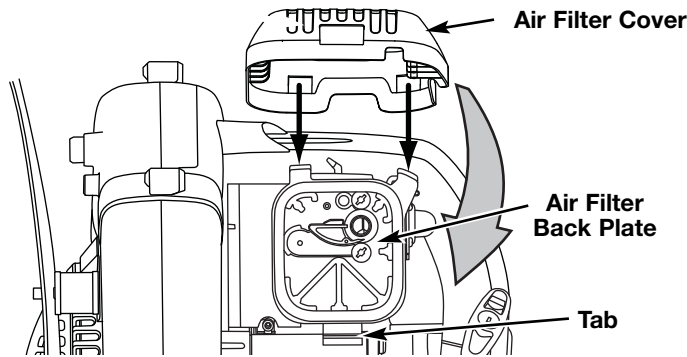

Fig. 28
- Swing the cover down until the tab on the air filter backplate snaps into place in the slot on the air filter cover (Fig. 28).